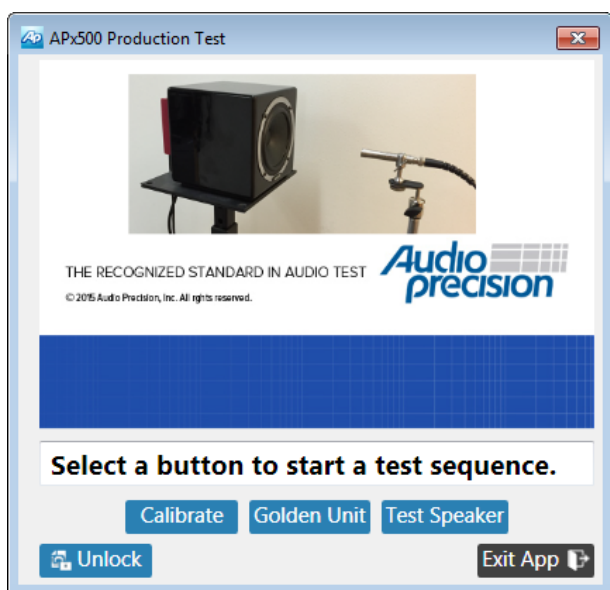

Figure 39. The user interface in Production Test mode (also referred to as the Production Test main menu).
- A much simpler UI for test operators: a Production Test main “menu” consisting of a simple dialog window with a button for each sequence and an optional banner image (e.g., Figure 39).